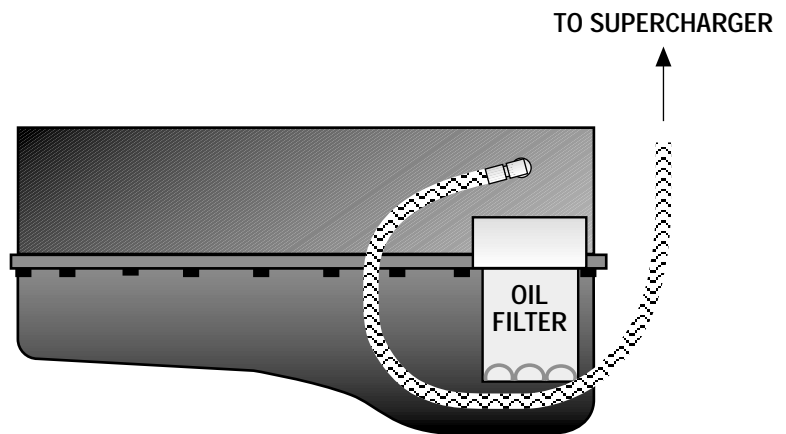

Fig. 3-a
- B. Remove the 1/4" NPT plug located on the engine block just above the oil filter boss. Replace the plug with the supplied 1/4" NPT x 1.5" nipple, 1/4" NPTF x 90° elbow and 1/4" NPT x -4 flare fitting (see Fig. 3-a).
- C. Connect the supplied feed line to the flare fitting (make sure that the silver fire sleeve has been slid onto the feed line to protect from radiant exhaust heat) and make a gentle downward loop around and back up to the rear of the engine (see Fig. 3-a). Secure the hose with the tie wraps provided, routing it away from exhaust heat, chaffing and/or sharp objects. Temporarily cover the open end from debris until the connection is made to the supercharger in step 5.